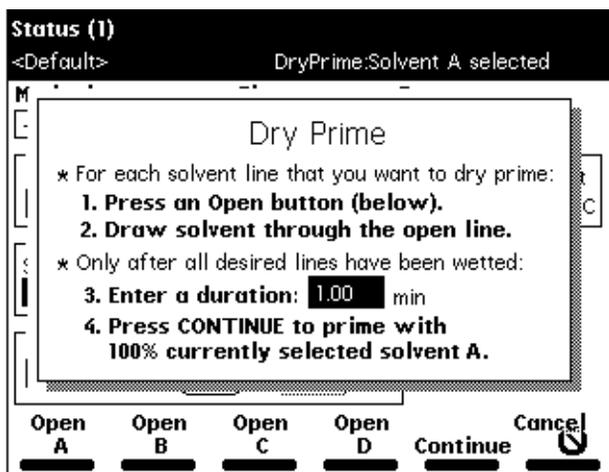

Figure 4-9 Dry Prime Dialog Box
6. Select **Dry Prime**, then press **Enter**. The Dry Prime dialog box shown in Figure 4-9 appears.